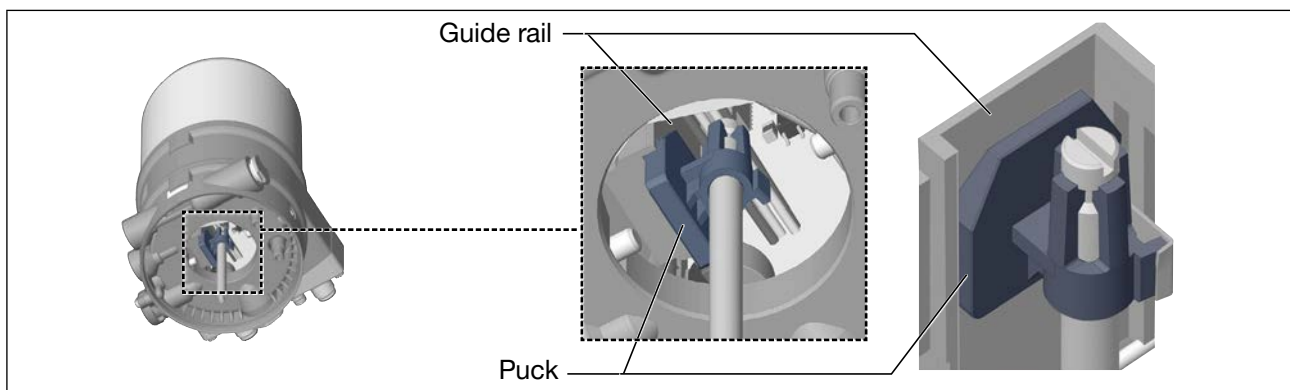

Fig. 19: Aligning the puck
- Place Type 8692/8693 onto the actuator. In doing so, align the puck of the actuator with the guide rail of Type 8692/8693 (see “Fig. 19”).